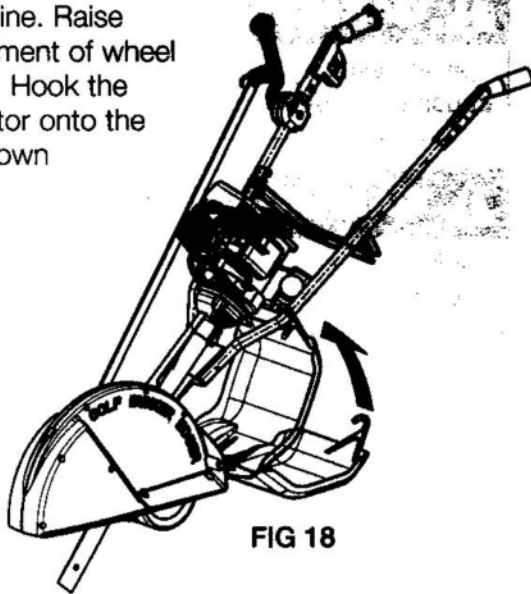

FIG 18
10. Stop engine. Raise height adjustment of wheel to Position 1. Hook the debris deflector onto the handle as shown (Fig 18).